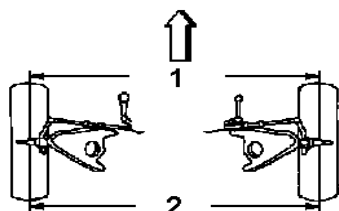

Fig. 9: Identifying Toe
- Toe-In - This is when the distance between the front (1) centerline of the tires is shorter than the distance between the rear (2) centerline of the tires. See Fig. 9.
- Toe-Out - This is when the distance between the rear (2) centerline of the tires is shorter than the distance between the front (1) centerline of the tires. See Fig. 9.